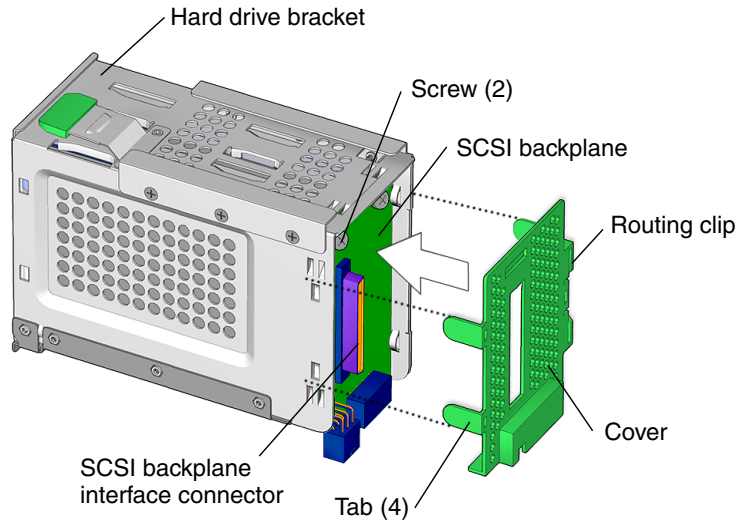

FIGURE 13-29 Installing the SCSI Backplane Cover
The single SCSI connector should face out from the interior of the hard drive bracket. The two SCSI backplane power connectors should face toward the bottom of the hard drive bracket (FIGURE 13-29).
6. Replace the green plastic SCSI backplane cover (FIGURE 13-29).